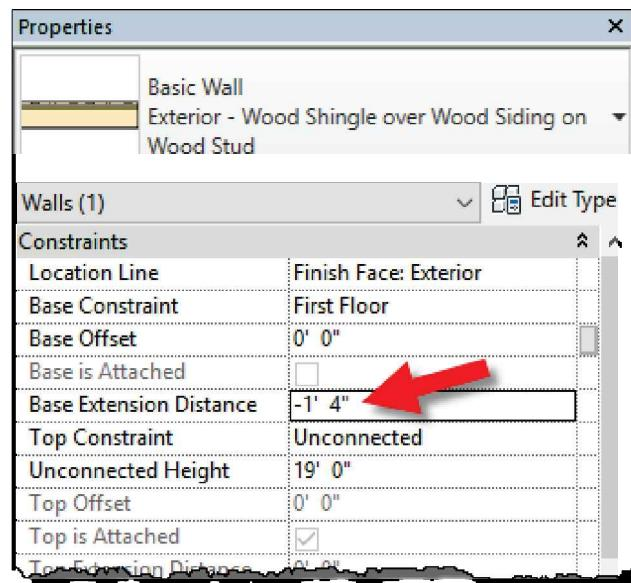

FIGURE 11-3.9 Base Extension Distance
24. Set the *Base Extension Distance* to **-1'-4"**. Do not forget to add the negative sign at the beginning. See Figure 11-3.9.